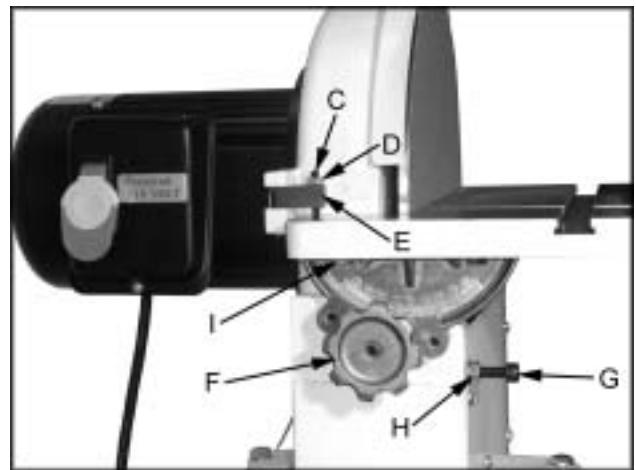

Fig. 5
2. If adjustment is needed move the table so that it rests 90 degrees from the table, and loosen the hex nut (D, Fig. 5) and tighten the set screw (C, Fig. 5) until it contacts the table surface. Tighten hex nuts. This will properly adjust the 90-degree stop.
3. Loosen the lock knobs (F, Fig. 5) and tilt the table up just enough to pivot the stop (E, Fig. 5) out of the way.
4. Tilt the table down until it hits the 45 degree stop (G, Fig. 5). Tighten lock knobs, and check the table with a combination square.
5. If adjustment is needed, loosen the hex nut (H, Fig. 5) and adjust the socket head cap screw (G, Fig. 5) until it contacts the table. Tighten hex nuts.
6. Always maintain a gap of approximately 1/16" between the table edge, and disc. If adjustment is necessary loosen hex cap bolts (I, Fig. 5) and move the table into position. Tighten hex cap bolts.
8. If you want to tilt the table up you need to pivot the stop (E, Fig. 5) out of the way.